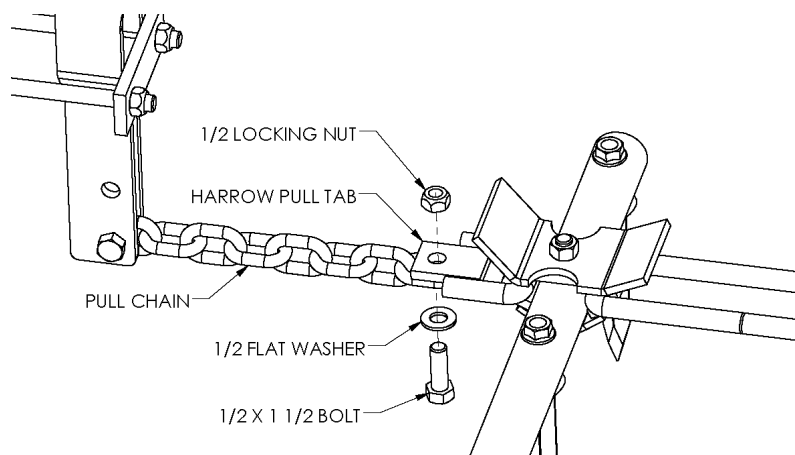

Figure 31
1. Bolt the pull chains to the front tabs on the harrow sections. Refer to Figure 31.
1. Bolt the pull chains to the front tabs on the front harrow sections. Refer to Figure 31. Use 1/2" x 1 1/2" bolts, flat washers, and locking nuts. The chains should be bolted to the bottom of the pull tabs.
1. Bolt the pull chains to the front tabs on the harrow sections. Refer to Figures 31 and 35. Use 1/2" x 1 1/2" bolts, and locking hex nuts. The chains should be bolted to the bottom of the pull tabs.